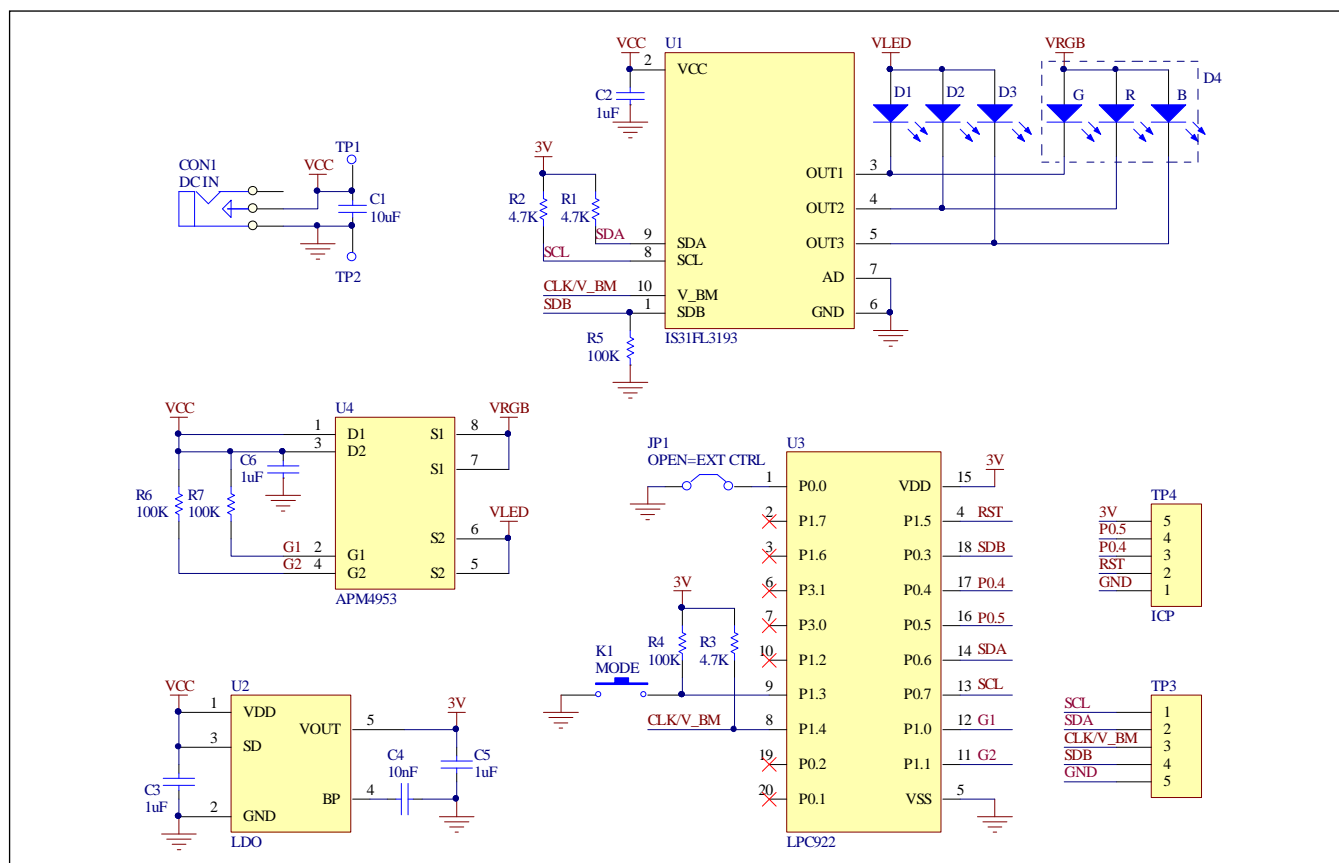

Figure 2: IS31FL3193 Application Schematic
*Table 2: Bill of Materials, refer to Figure 2 above.*